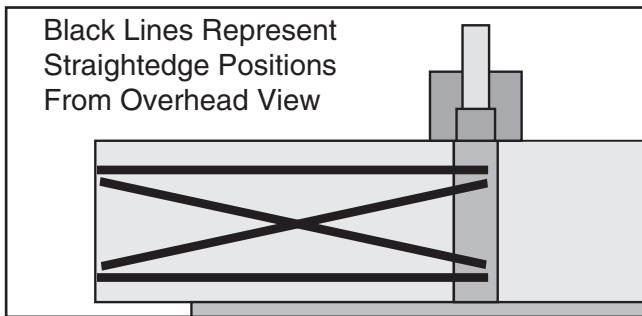

Figure 58. Straightedge positions for verifying if outfeed table is parallel with cutterhead.
- Place straightedge in each position shown in **Figure 58**, and adjust eccentric bushings under outfeed table so straightedge touches cutterhead body while lying flat across outfeed table.